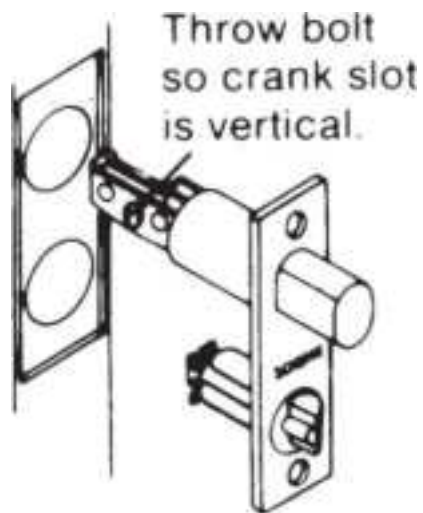
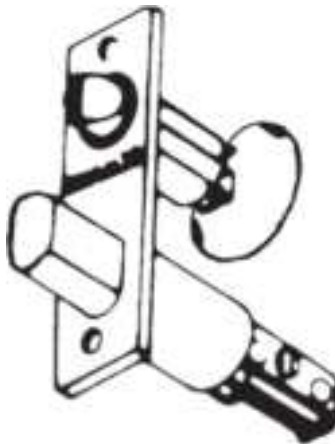

**Figure 13.61** Insert latch unit.
**Figure 13.62** Rotate dead-latch.
9. With the deadbolt thrown and the crank slot in the vertical position, insert the latch unit and secure it with the screws provided (Fig. 13.61 ). The dead-latch can be rotated to match the door hand (Fig. 13.62 ). The